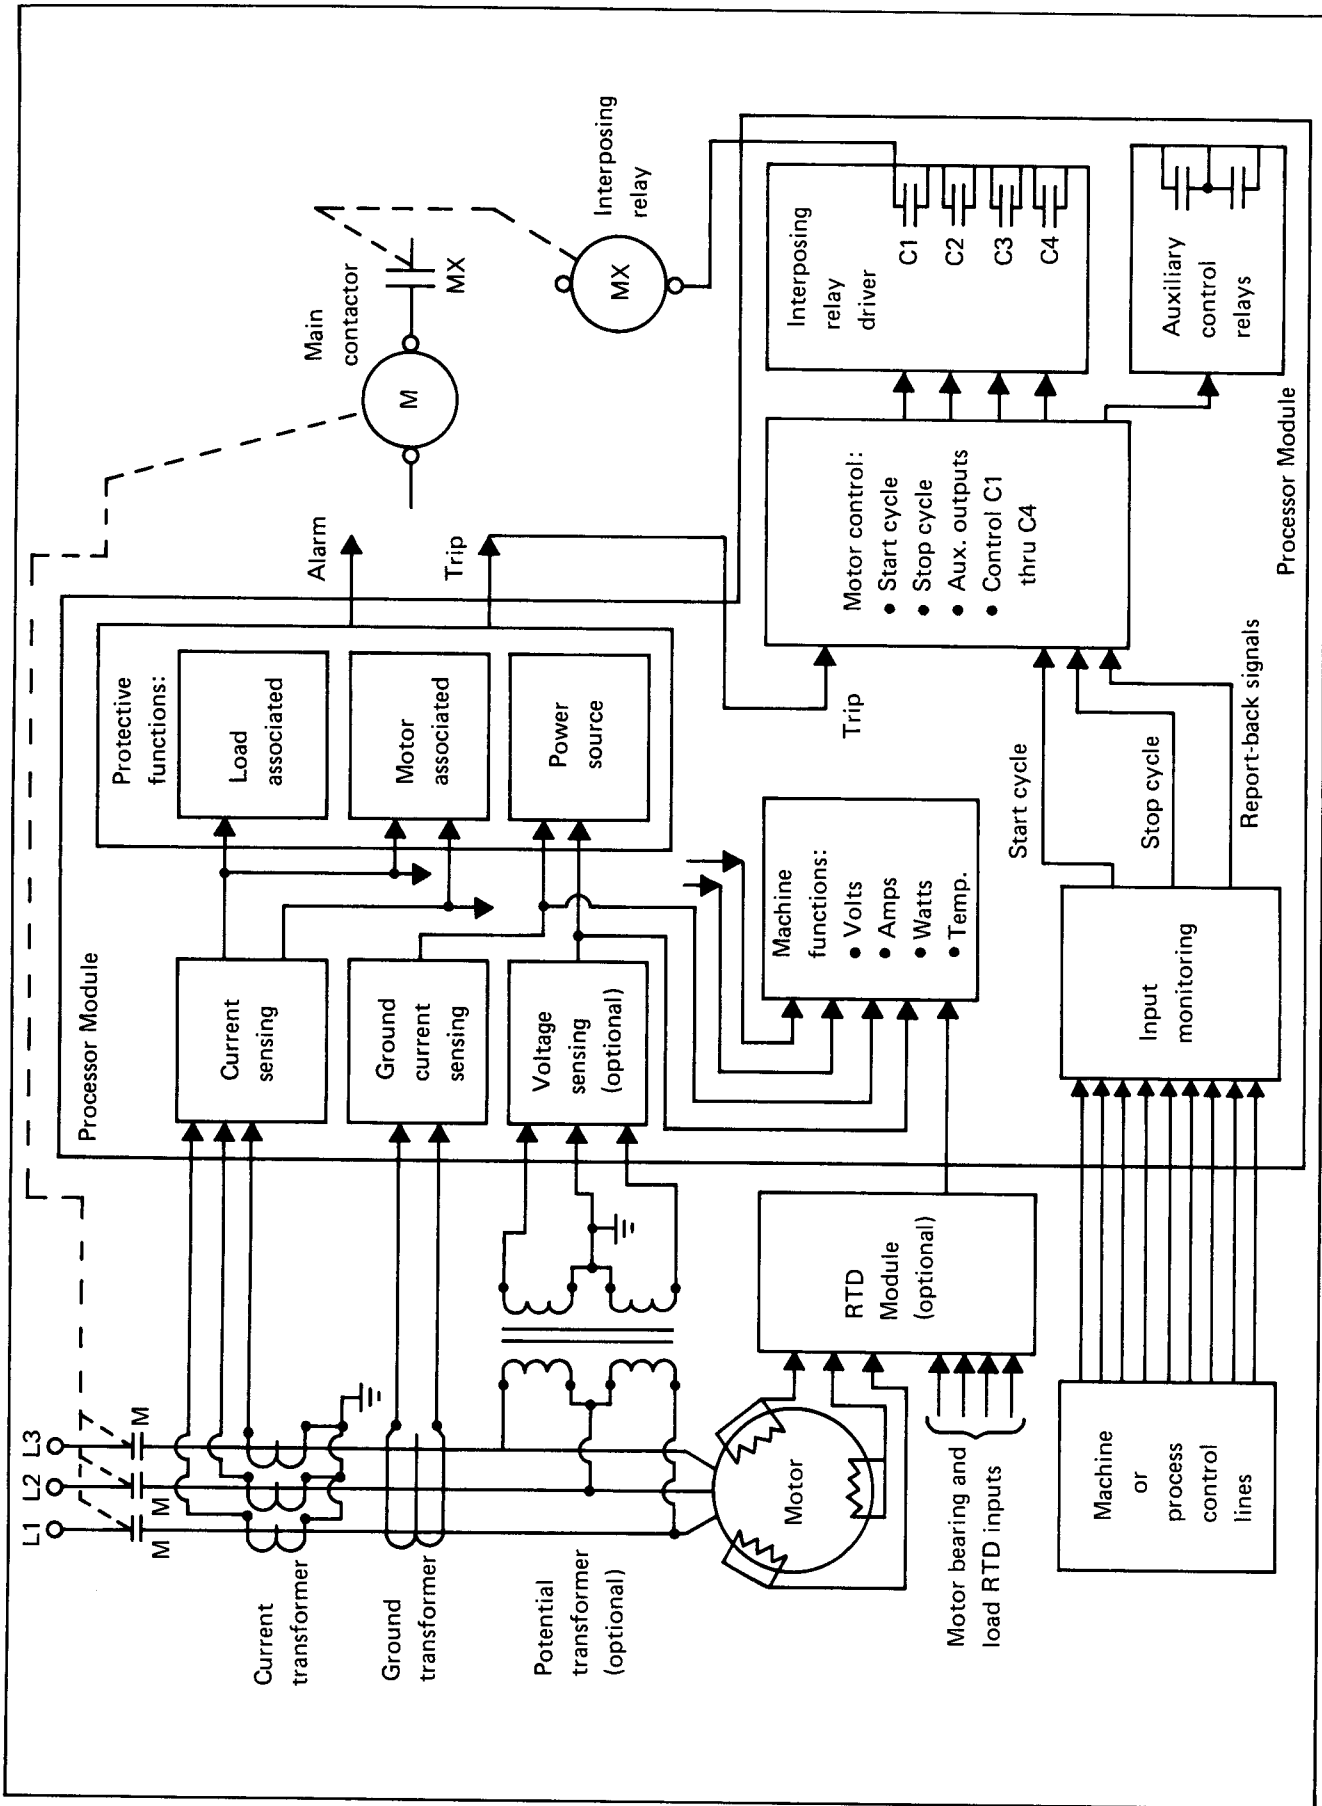

Figure 2.1 – Functional Block
2.1 Sensing Inputs — The IQ-2000 receives information about motor current, line voltage and ground fault current as well as control inputs such as motor starting and stopping commands. (See Figure 2.1.) Optionally, RTD inputs supply temperature data. The motor current and control inputs are described in more detail in the following paragraphs.
2.2 Protective Functions — Protective functions utilize motor conditions such as current and temperature on an on-going basis and first initiate an alarm condition, where appropriate, and finally a trip condition. (See Figure 2.1.) These conditions perform the following functions: